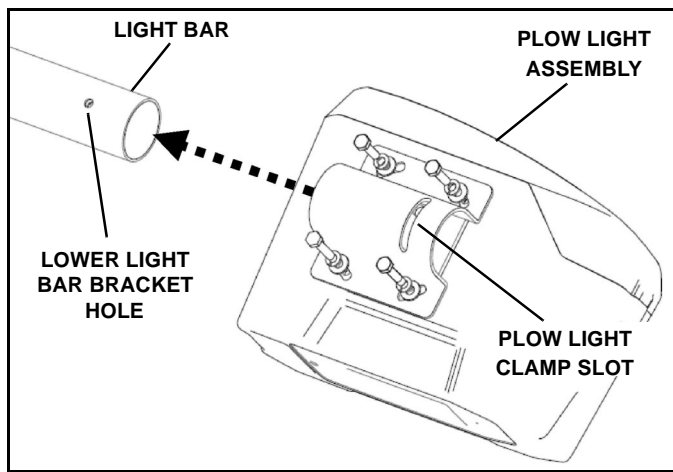
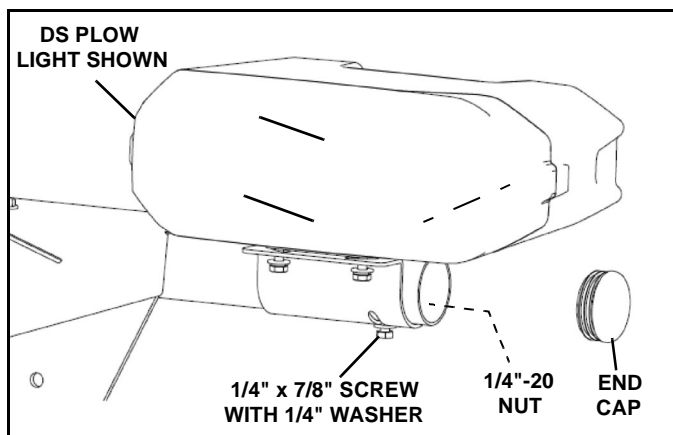

Figure 1-18
Figure 1-19
29. Slide the plow lights onto the respective ends of the light bar bracket, aligning the hole in the bottom of the bracket with the slot in the plow light clamp (See Figure 1-18).
30. Install a 1/4" x 7/8" screw with 1/4" washer through each clamp and light bar and loosely secure with a 1/4"-20 nut (See Figure 1-19).
33. Aim plow lights with plow in the fully raised position. Lock the lamps in the adjusted position by tightening four 1/4" x 7/8" horizontal adjustment screws and one 1/4" x 7/8" vertical adjustment screw and 1/4" nut securely (See Figure 1-18 and Figure 1-19).
34. Install an end cap in each end of the light bar (See Figure 1-19).